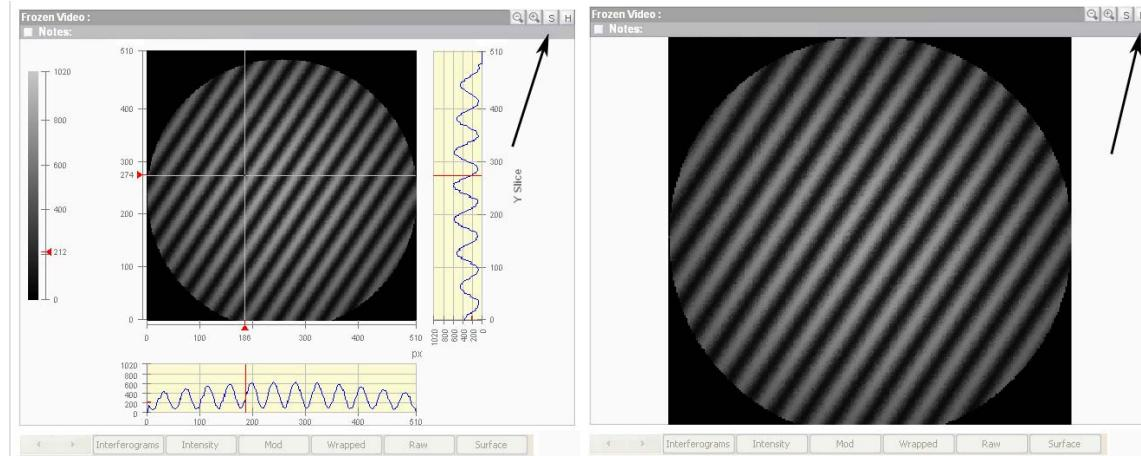

Figure 29: Measurement Screen with options shown and hidden.
The Measurement Screen's standard display is a Contour Plot. As such, all the contour plot options are available: cursors, x and y profiles, legend, etc. (see Contour Plot). These options can be turned on and off using the **Show (S)** and **Hide (H)** buttons in the upper right of the plot (Figure 29).